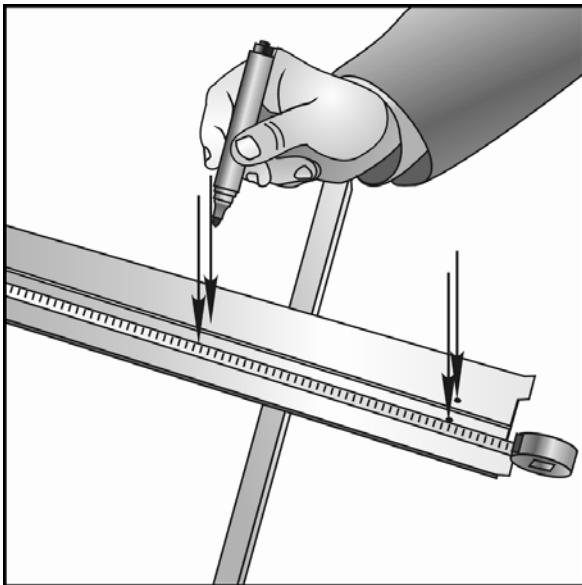
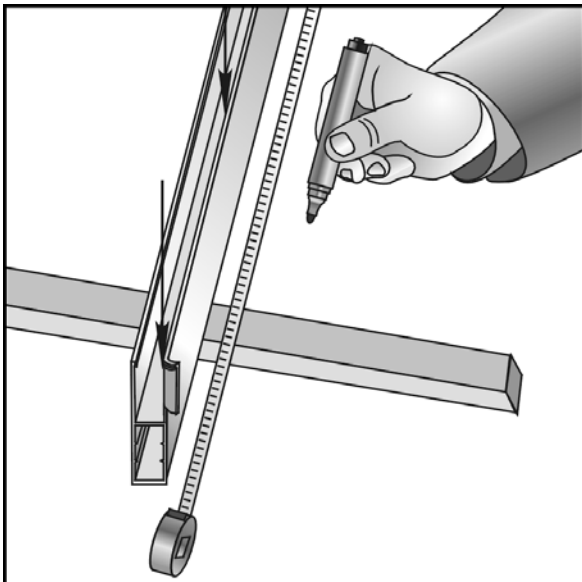

Fig. 2.1
Fig. 2.3
3. Mark and drill $\varnothing 8$ mm holes in the guide rails through two walls. The lower and the upper holes must be made at the distance of 100...150 mm from the rail edges. Other holes must be placed evenly along the length of the guide rail with 450...500 mm step (*fig. 2.1, 2.2*)—front mounting, (*fig. 2.3, 2.4*)—built-in mounting.